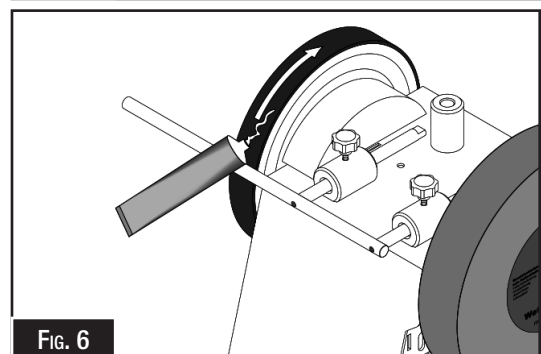

FIG. 6
6. Distribute the abrasive paste evenly onto the honing wheel with a suitable tool as shown. (Fig. 6)